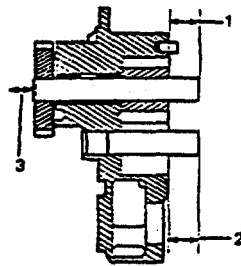

FIGURE 3-51. Limits.
- a. Apply a coat of lubricating oil to the large outside diameter of the idler shaft (26).
- b. Install the large outside diameter of the shaft (26), from the gear pocket side of the body (31), into the bore in the pump body.
- c. Use gear and spacer mandrel and an arbor press to push the shaft (26) into the bore.
- d. Apply a coat of lubricating oil to the inside diameter of the driven gear (27). Install the gear (27) onto the drive shaft (30). Use an arbor press to push the gear (27) onto the shaft (30). See Table 3-6 and Figure 3-51 to find the correct amount of protrusion the drive shaft must have after the gear is installed.
- e. Install the drive shaft (30) from the gear pocket side of the pump body, into the bore in the pump body (31). Apply a coat of lubricating oil to the inside diameter of the drive gear(s) (34). Put the gear (34) on the shaft (30) on the side of the body opposite to the gear pockets; use an arbor press to push the gear (34) onto the shaft (30). There must not be more than 0.012 inch (0.030 mm) clearance between the gear (34) and the body (31).
- f. Apply lubricating oil to the inside diameter of the idler gear (25). Install the idler gear onto the idler shaft (26).
a. Install new gasket (32, Figure 3-51) onto the mounting flange of the oil pump,
- c. Install the capscrews (19, 20) and lockwashers (18) to fasten the pump to the cylinder block. Tighten the capscrews to 35 to 45 ft-lb (47 to 61 N•m) torque.